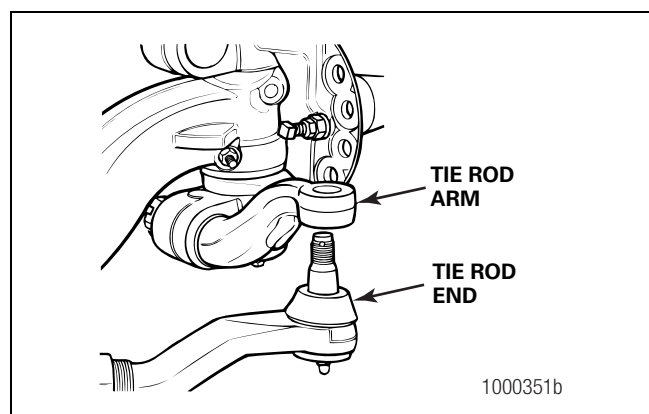

Figure 4.11
- Remove the cotter pins and nuts that fasten each tie rod end to the tie rod arms. Figure 4.11.
2. Disconnect the cross tube assembly from the tie rod arms. If available, use a tie rod end puller to separate the tie rod end from the tie rod arm. Figure 4.11.